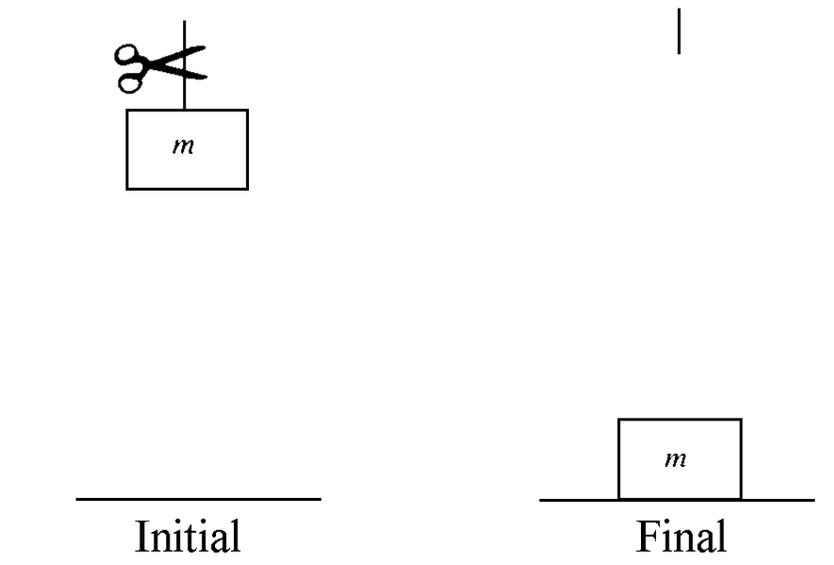

Figure 1 A mass is dropped onto a surface and comes to rest - an example of an irreversible process
1. If a mass is dropped onto a surface (see Figure 1), the mass loses potential energy—a form of mechanical energy. This mechanical energy is lost as the mass comes to rest. A little of it is converted into sound energy which is absorbed by surrounding material and has the effect of heating the absorbing material very slightly. More is converted directly into heat by the action of friction in the material onto which the mass is dropped. This conversion of mechanical energy into heat energy is a sure sign of an irreversible process because as will be proved later, all this heat cannot be converted back into work.